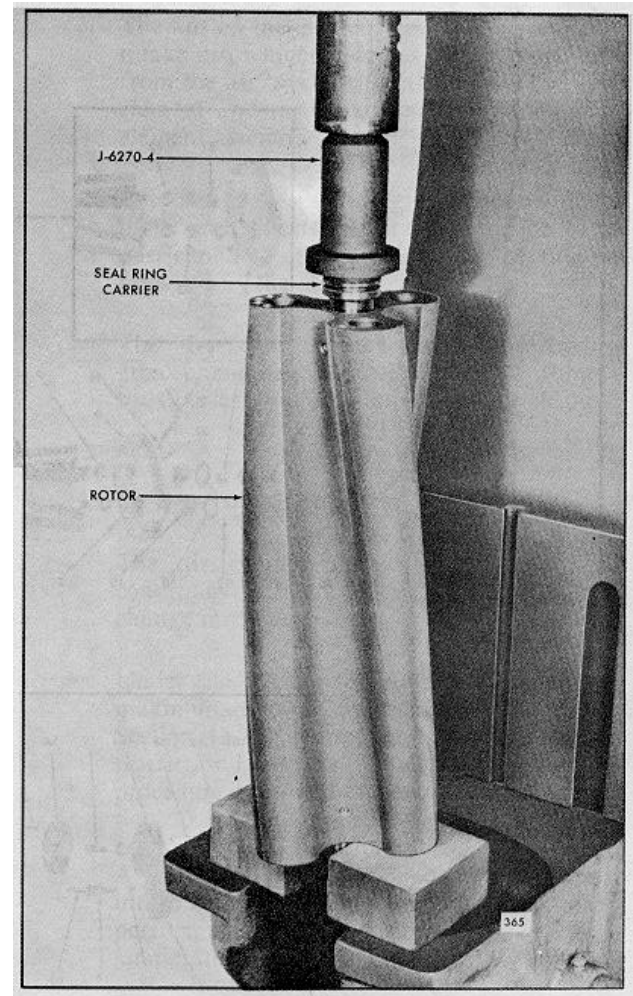

FIG. 16 - Installing Oil Seal Ring Carrier on Blower Rotor Shaft (Turbocharged Engine Blowers)
- a. Support one of the rotor assemblies on wood blocks on the bed of an arbor press as shown in Fig. 16.